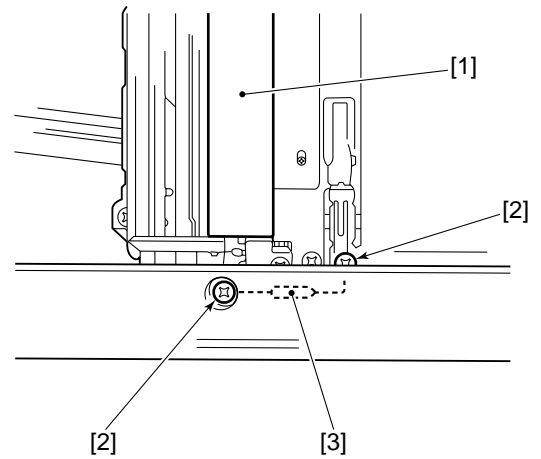

Figure 4-803
- 2) Hold the rear of the No. 1 mirror mount [1], and move it to the right until it is positioned as shown in Figure 4-803.